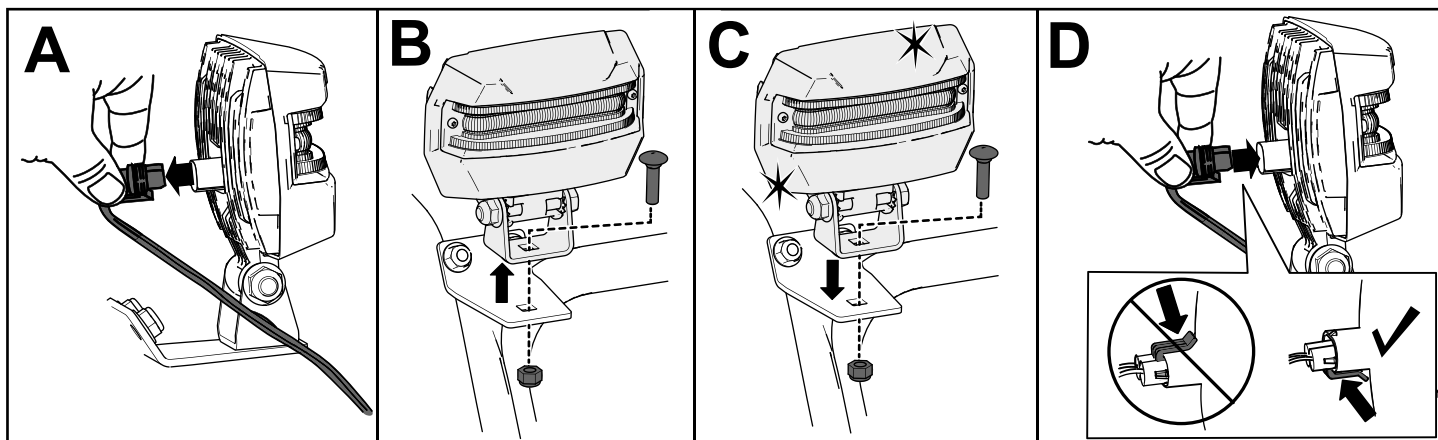

Figure 35
1. Remove the headlight wire from the back of the headlight (A of Figure 35).
2. Remove the bolt and nut holding the headlight assembly onto the headlight bracket and then remove the old headlight assembly (B of Figure 35).
3. Secure the new headlight assembly onto the headlight bracket with the previously removed nut and bolt (C of Figure 35).
4. Insert the headlight wire straight into the back of the headlight until it is securely in place (D of Figure 35).